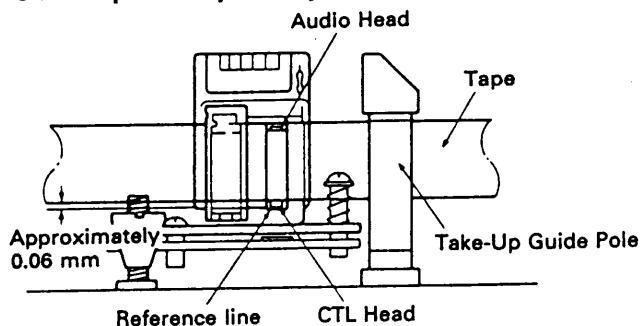

Fig. 5-1 Audio/CTL Head adjustment
- Carefully and evenly adjust nut ®, and screws ® and © to align the Audio/CTL Head height with the tape as shown in Fig. 5-1.